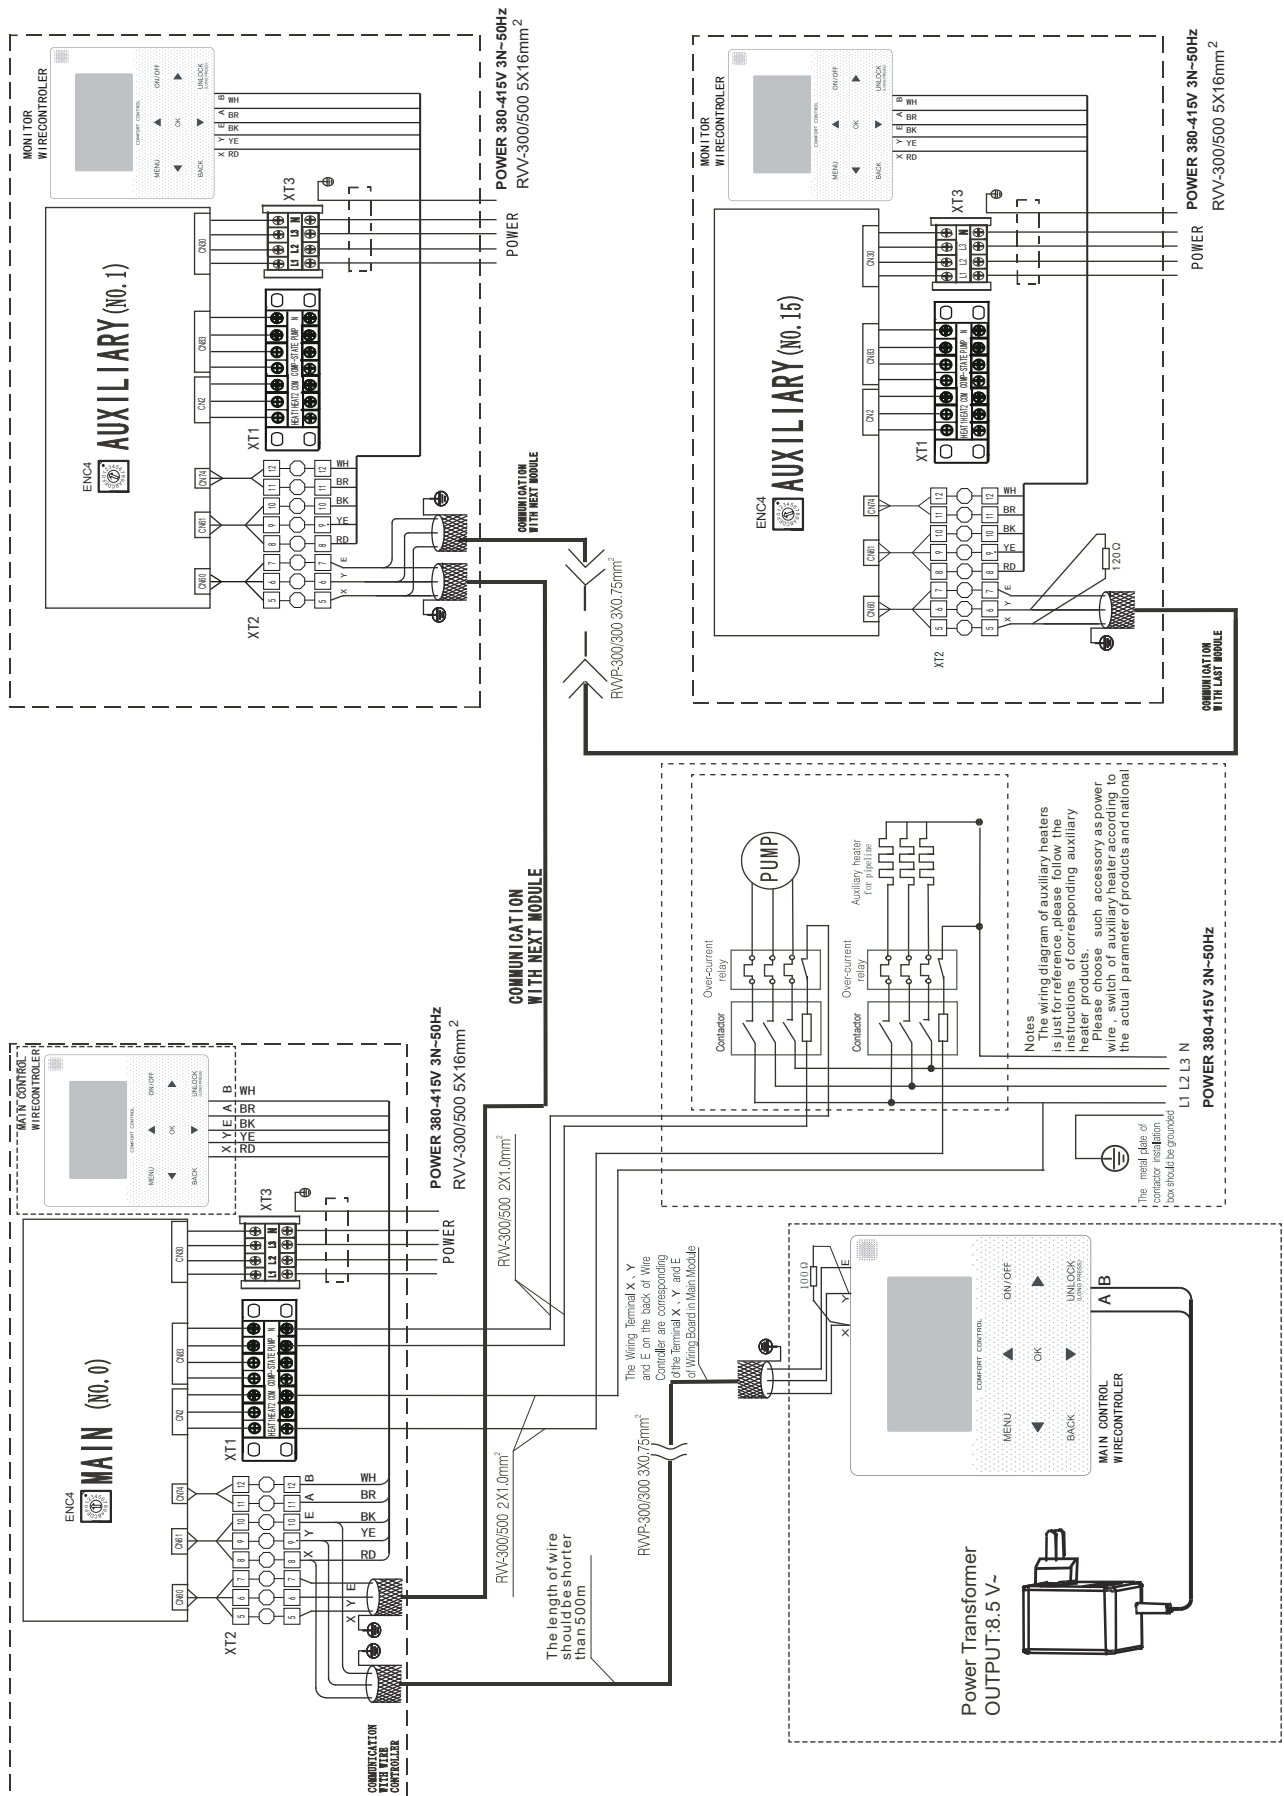

Fig. 8-23 Networking communication schematic of main unit and auxiliary unit for GIA-MCSU60RN8LR32
h) The by-pass pipes and by-pass valves as shown in Fig.8-23 must be mounted for the heat exchanger, to facilitate cleaning of the outside system of water passage before the unit is adjusted. During maintenance, the water passage of the heat exchanger can be cut off without disturbing other heat exchangers.